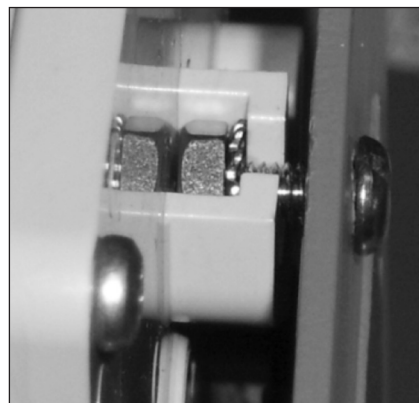

Figure 7.25 Example - Mounting plate attached to the nut
6. By tilting the bottom of the Endpoint away from the mounting plate slide the notched mounting slot under the nut as shown in Figure 7.25 Example. Leave the screw loose for now.